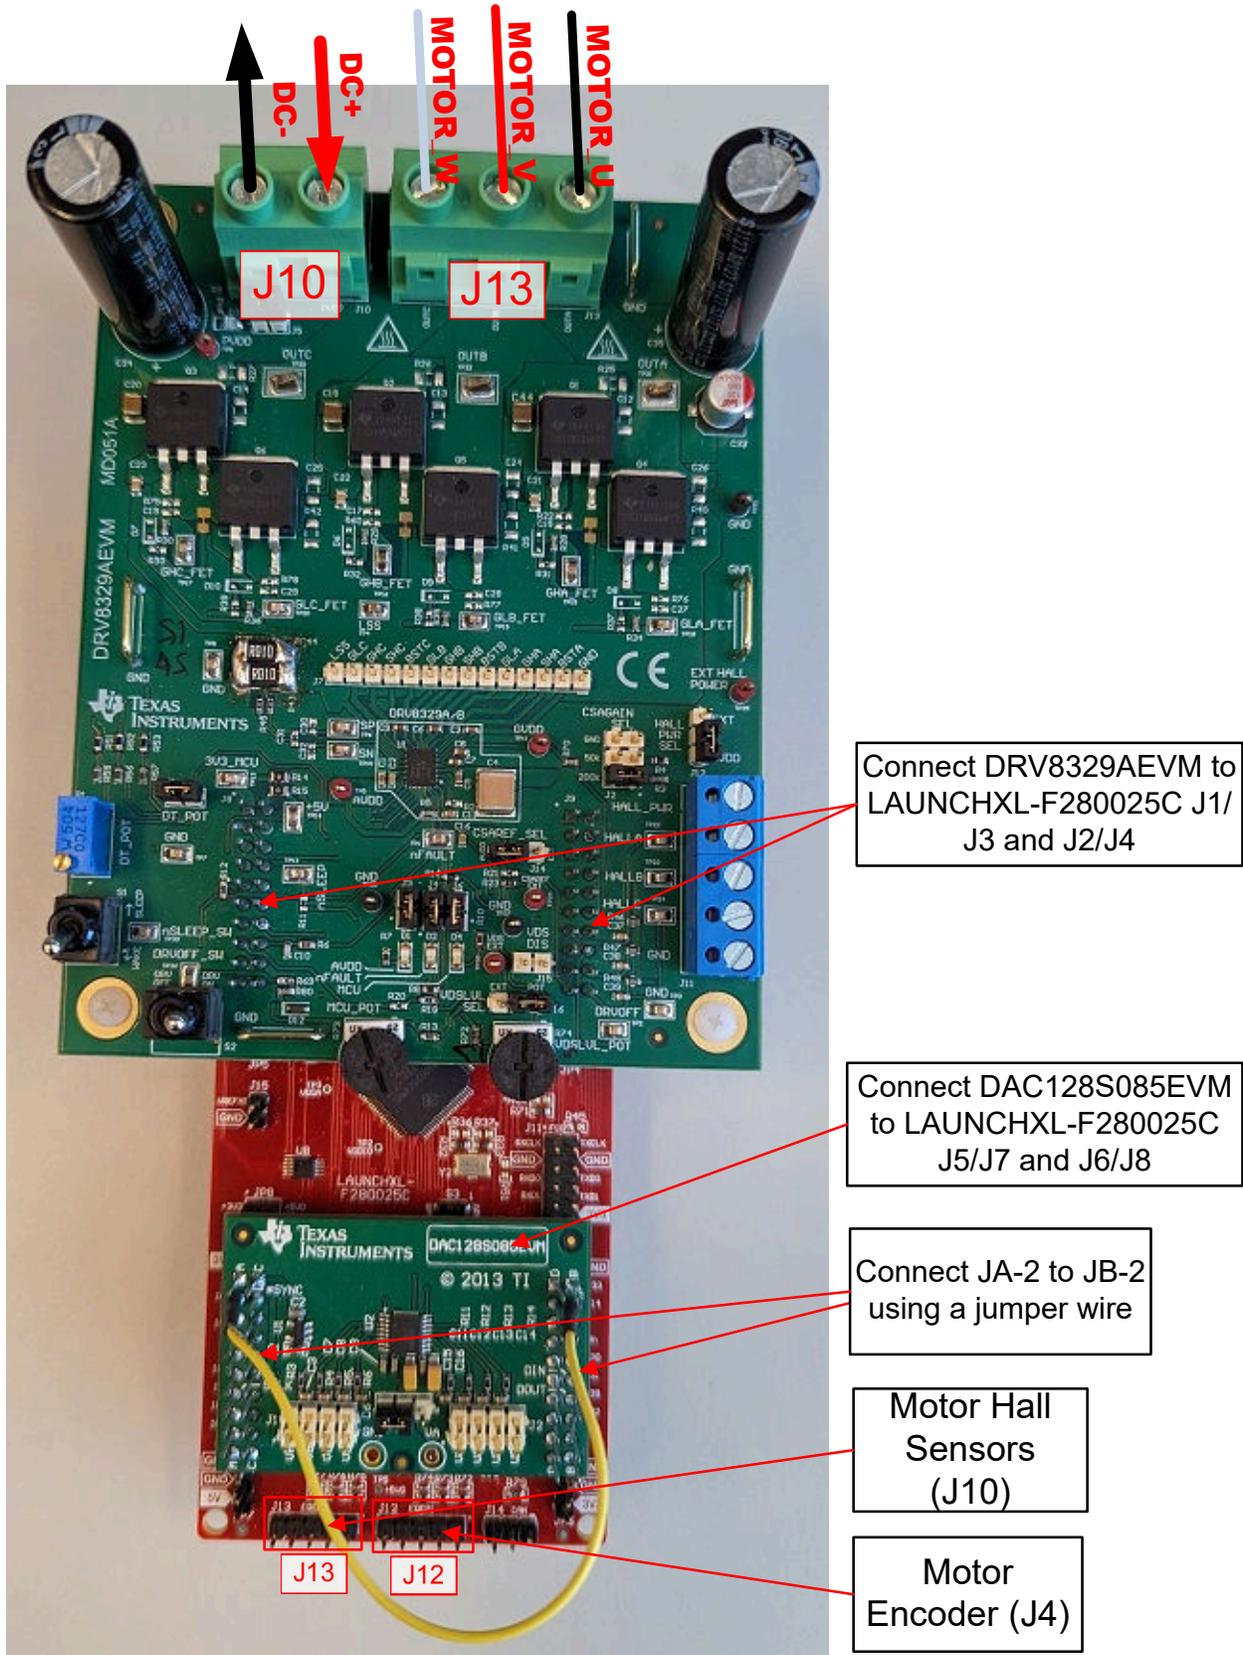

**Figure 3-7. TMDSDAP180TO100 Adapter and Switches Setting**
- Make sure that switches TMDSDAP180TO100 are set as described below or shown in Figure 3-7.